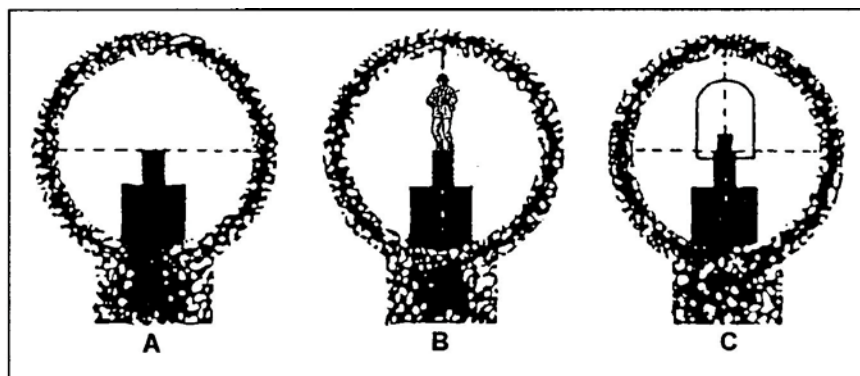

Figure 6. Sight picture.
2. Fire the weapon using the correct sight picture (Figure 6).
- a. Sight alignment. Center the front sight post in the peep sight (A, Figure 6).
- c. Sight picture. Center the target over the front sight post (B, Figure 6). If firing on a 10-meter range target, use the sight picture in C, Figure 6.